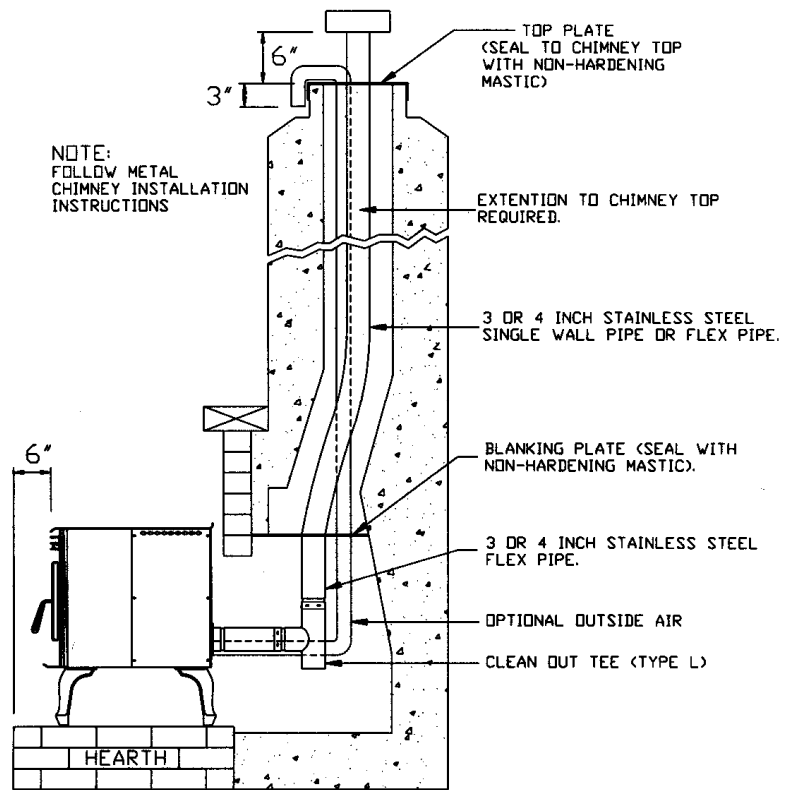

Figure 9
(Refer to figure 9)
3. Install a blanking plate and the chimney pipe, and if used the outside air pipe, as shown in Figure 9.